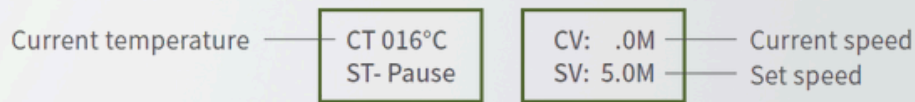

Figure 4
11. Turn off the motor switch (21) and simultaneously press buttons (17) and (18) as shown in Figure 4, or press the temperature (18) - button to "OFF" to stop heating the hot wedge. (This operation can be ignored)